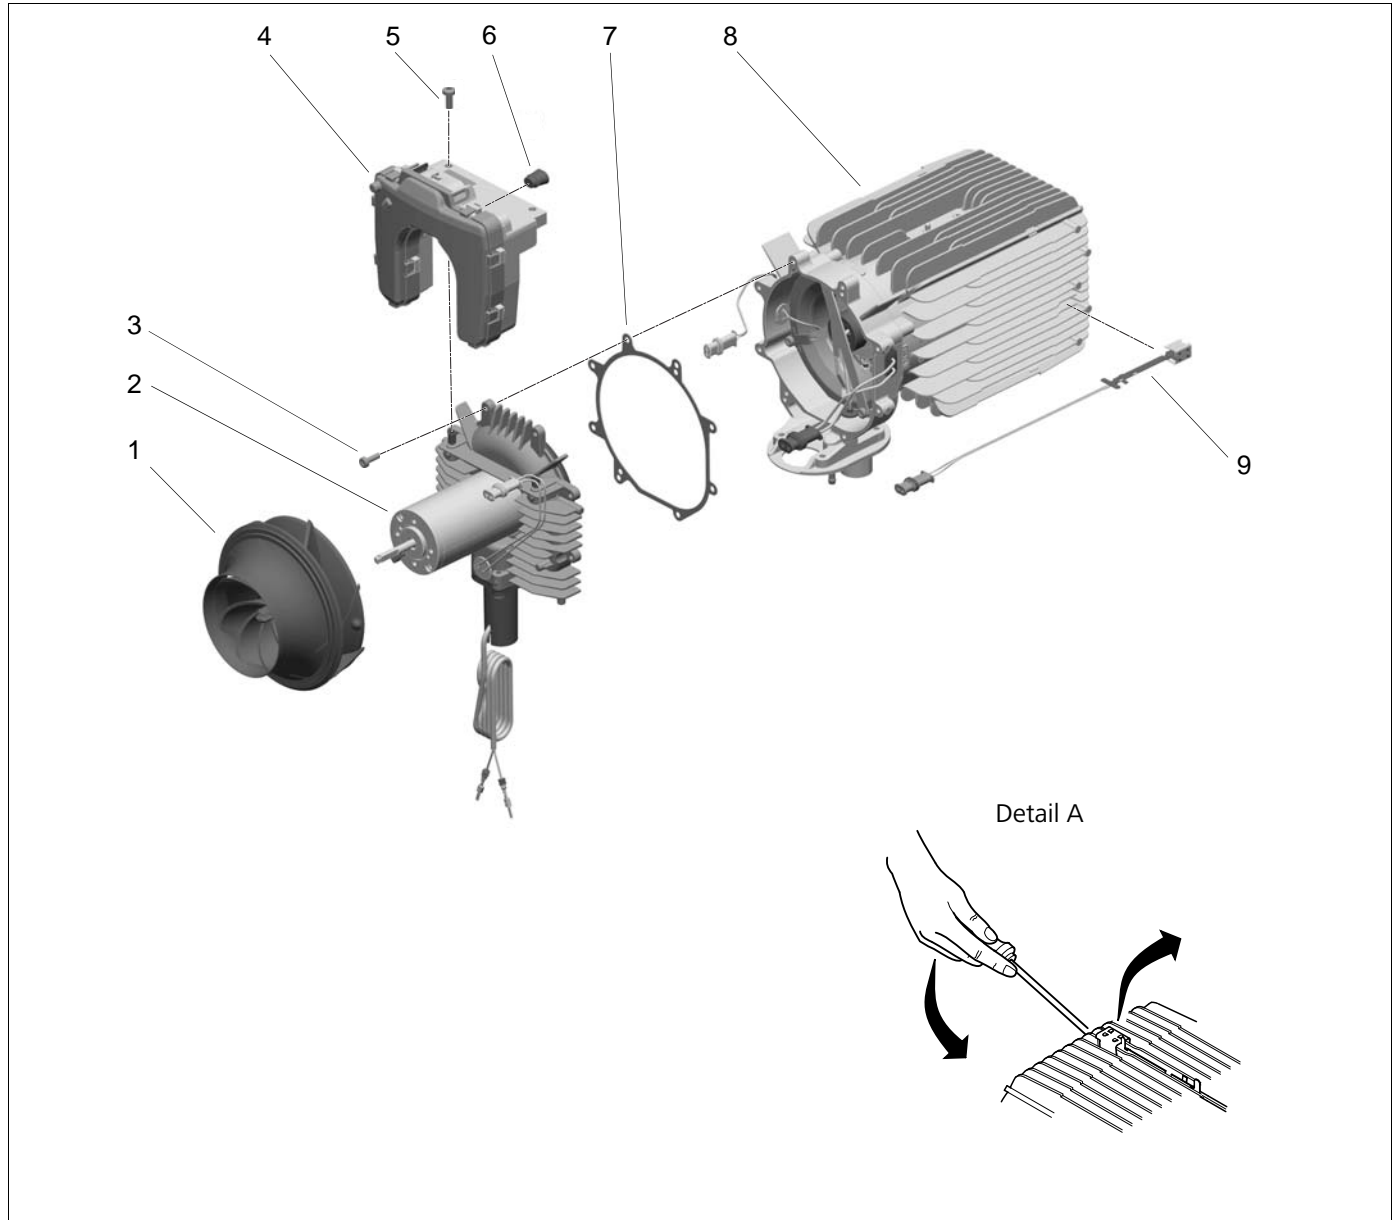

Fig. 903 Replace control unit, blow-out temperature sensor, heating air fan and drive unit
3. Remove screws (5, Fig. 903).
4. Disconnect connectors on control unit (4).
5. Pull out control unit (4) upward.
2. Fasten control unit (4, Fig. 903) with screws (5).
3. Tighten screws (5) to 3.0 ± 0.3 Nm.
3. Disconnect plug connection X3 from control unit (4, Fig. 903).
3. Position a pair of long-nose pliers from the front between the two locking lugs on the motor shaft. Hold heating air fan (1, Fig. 903) with one hand and simultaneously and carefully spread two lugs with a slight twisting movement. Pull off heating air fan (1).
2. Slide heating air fan (1, Fig. 903) onto motor shaft until engaging of lugs on both sides is audible at stop.
4. Check smooth running of heating air fan (1) by hand, then listen for any noises when switching on later. The sensor magnets on the heating air fan (1) must be free from chips containing iron, etc.
Only replace the drive unit (2, Fig. 903) with a drive unit with the same performance data and the same ID No.
1. Make sure that sealing surfaces on drive unit (2, Fig. 903) and on heat exchanger (8) are not damaged.
2. Lay new flat seal (7) on flange of drive unit (2).
3. Move drive unit (2) into assembly position and secure it with screws (3).
4. Tighten screws (3) to 6.0 ± 0.6 Nm.
6. Fit heating air fan (1) (see 9.2.5.2).